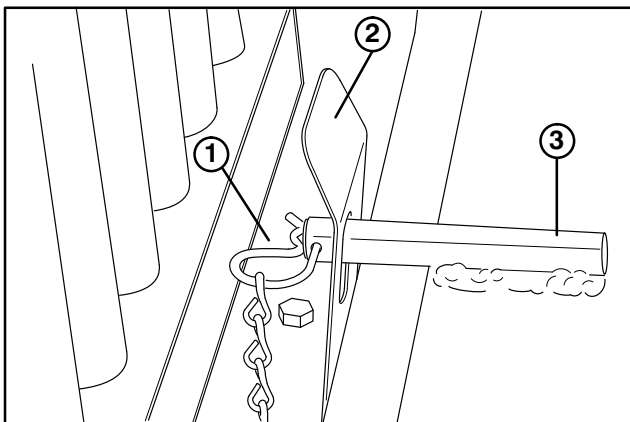

Figure 3
3. Remove hair pin cotter and pull back on locking spring flap to pivot mounting plate forward (Fig. 3).
2. Remove hair pin cotter and pull back on locking spring flap to pivot mounting plate forward (Fig. 3).